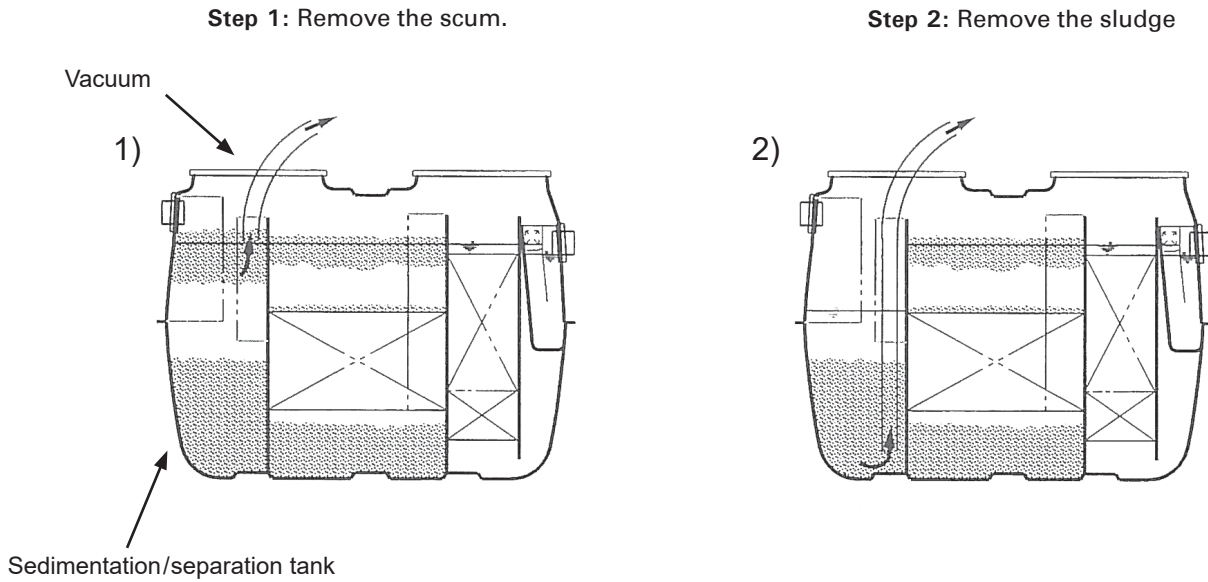

Figure 21 - Pump out procedures
- Open the gray recirculation valve (2) to 100%.
- Turn off the recirculation by rotating the gray valve (2) to 0%.
- A hose or brush can also be used to clean the recirculation line. See Figure 21.
- Reset the gray valve (2) to its original position.